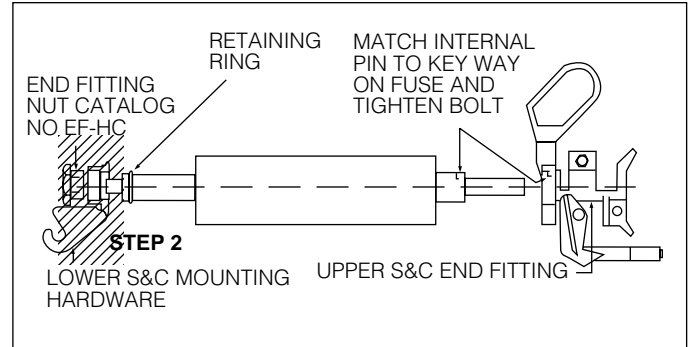
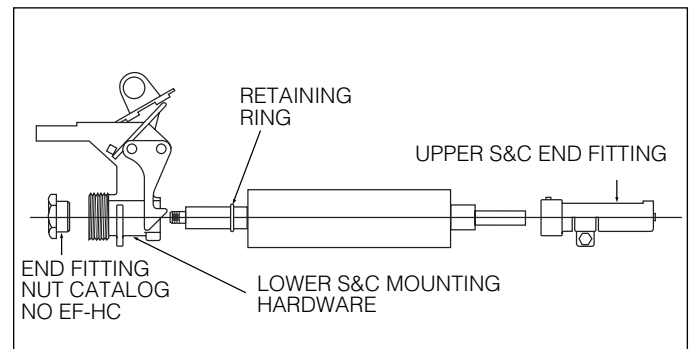

Figure 1. X-Limiter Hinge-Mount fuse for S&C SM-20 mounting.
Figure 2. X-Limiter Padgear-Mount fuse for S&C SME-20 mounting.
NOTE: Retaining Ring will need to be moved to location shown in Fig. 2 for SME replacement.
3. Lay the fuse assembly on a flat surface (as shown on Figure 1 or Figure 2). Make sure that the S&C fittings are touching the smooth part surface. Tighten the top end fitting bolt. Then tighten the end fitting nut (Cat.No. EF-HC) onto the bottom fitting. This should assure a good alignment between the top and bottom end fittings.